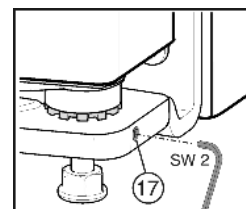

Fig. 12
- ▶ Extend the threaded pin *Fig. 12 (17)* a little (by one turn at most!).
- ▶ Tighten the threaded pin *Fig. 12 (17)* again to secure the bearing pin.